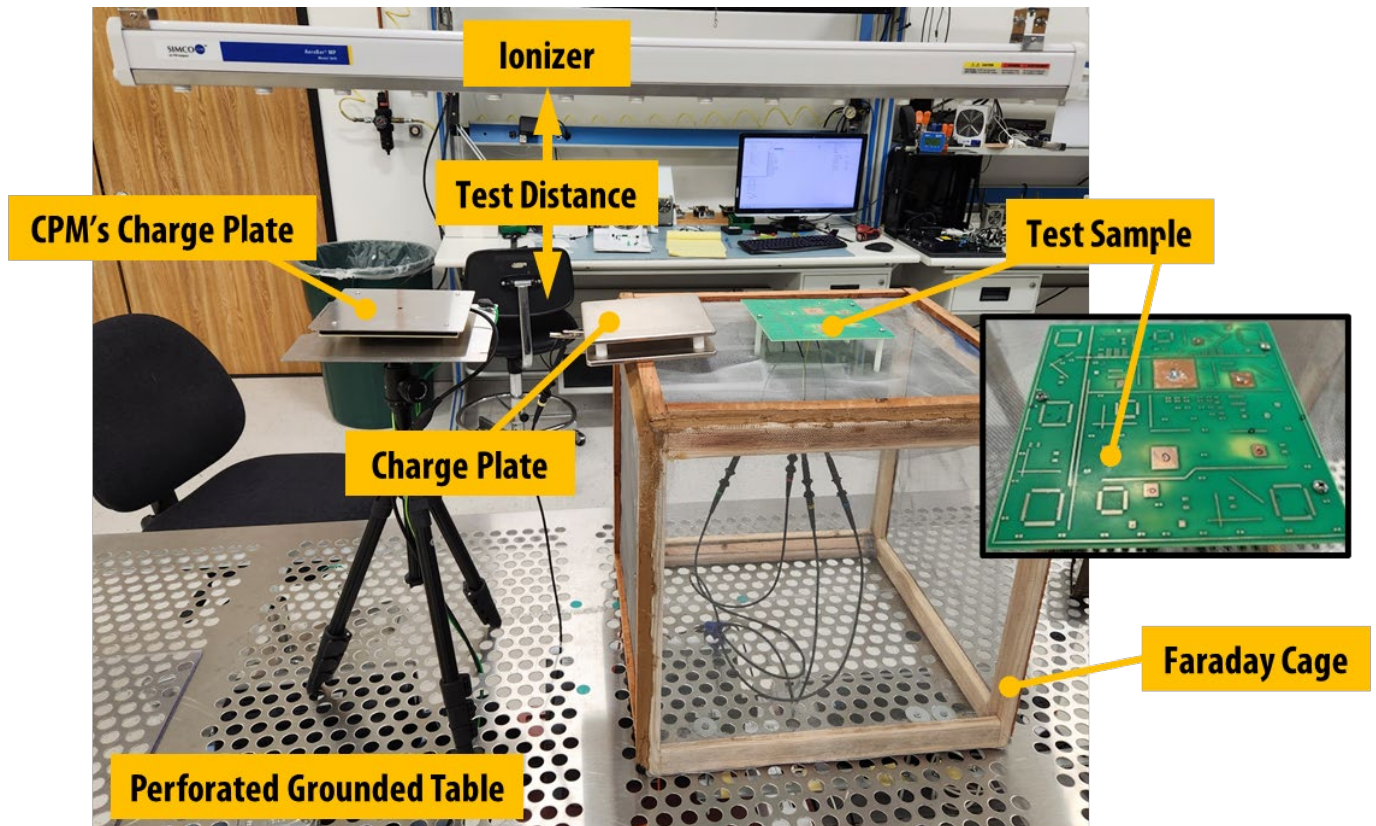

Figure 1. Test Setup showing CPM's Charge Plate, Charge Plate, Faraday Cage and Test Sample
The experimental setup consisted of two ionizers, Model 5645 MP (AC) and Model 5225 (DC) ionizing bars, suspended above a perforated table, as shown in Figure 1, Test Setup.